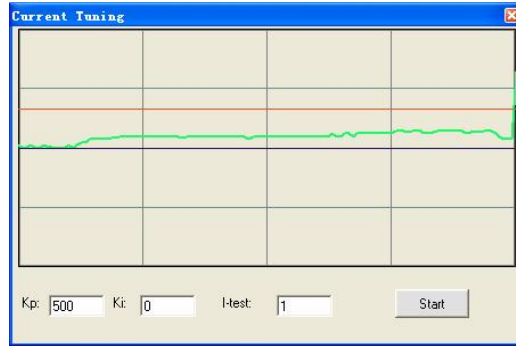

Figure 6-21: Current loop tuning with  $K_p=500$ ,  $K_i=0$
**Step 2:** Click the **Start** button and the plot window will show two curves. The red one is target current and the green one is actual current. There is large gap between them in the scope. It indicates that a large **Kp** need to be introduced. See figure 6-21.